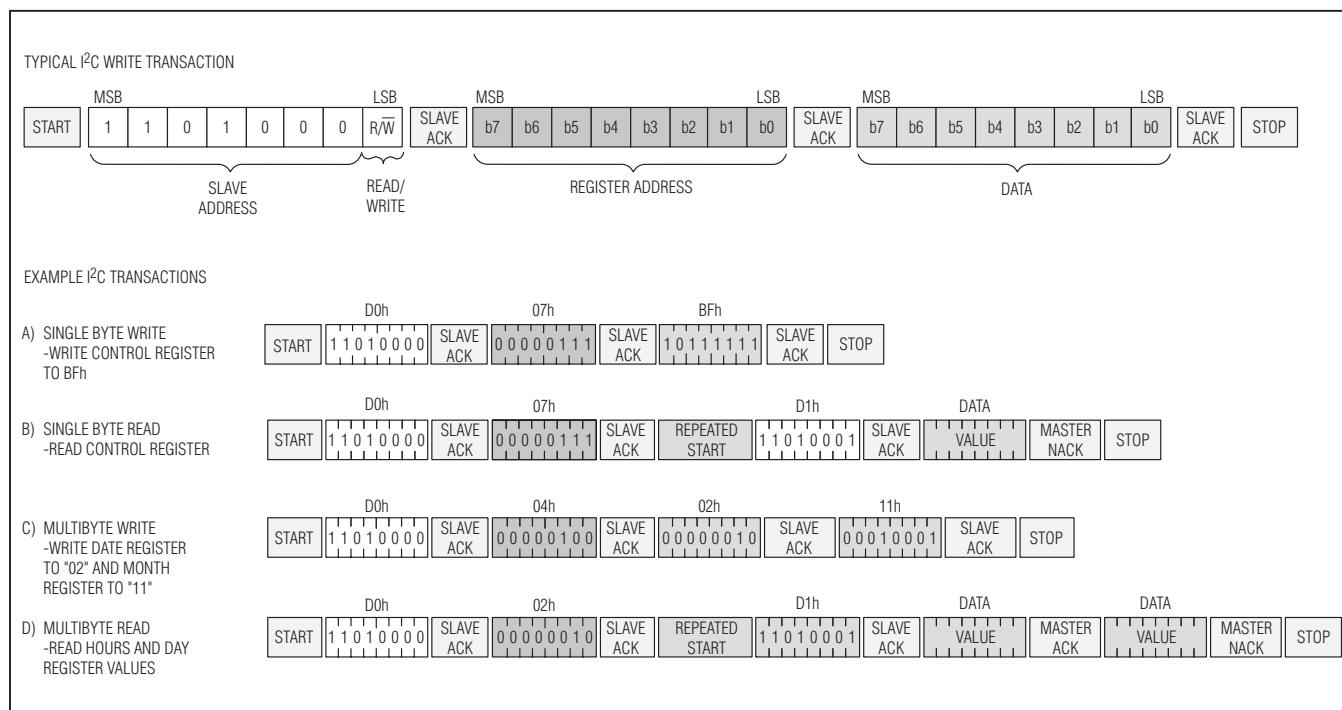

Figure 7. I2C Transactions
**Manipulating the Address Counter for Reads:** A dummy write cycle can be used to force the address counter to a particular value. To do this the master generates a START condition, writes the slave address byte ( $R/\overline{W} = 0$ ), writes the memory address where it desires to read, generates a repeated START condition, writes the slave address byte ( $R/\overline{W} = 1$ ), reads data with ACK or NACK as applicable, and generates a STOP condition. See Figure 7 for a read example using the repeated START condition to specify the starting memory location.